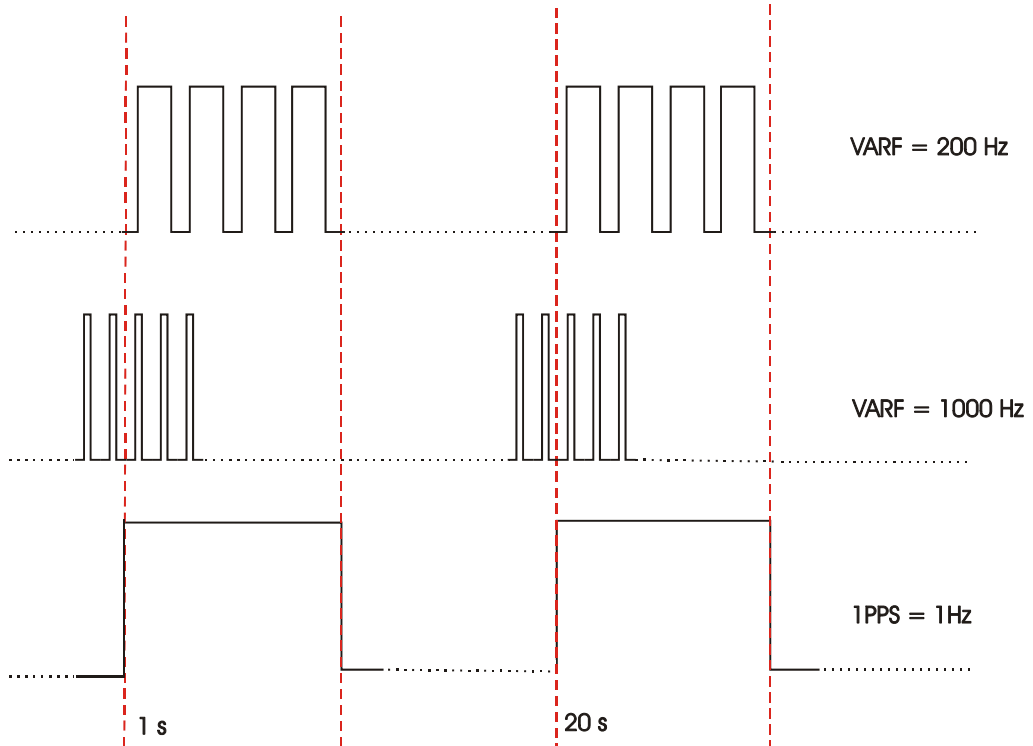

Figure 2: Pulse Width and 1PPS Coherency
The output waveform will be coherent with the 1PPS output, see the note and *Figure 2 on Page 82*.
- ☒ *Figure 2*, below, shows how the chosen pulse width will be frequency locked but not necessarily phase locked.